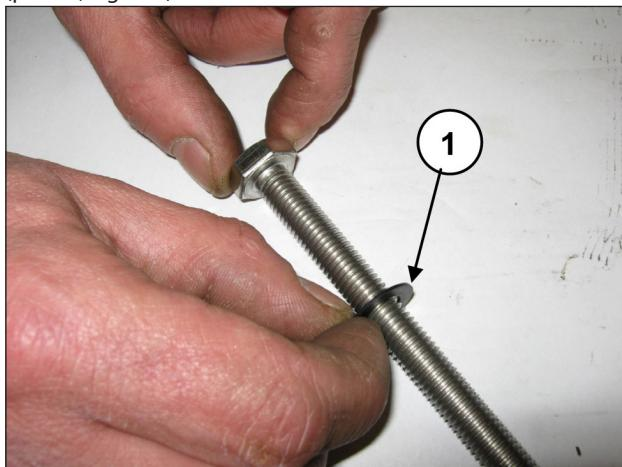

Fig. 183
Insert the Ø10x18x0.9 washer in the piston fixing screw (pos. ①, Fig. 183).